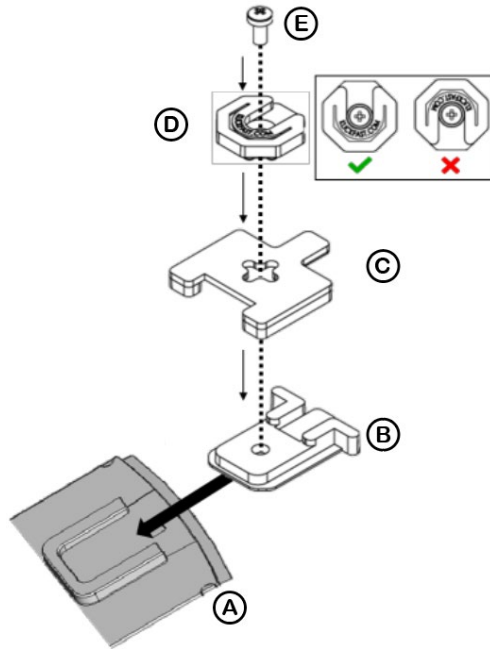

Figure 3
- Note:** The 'U' shaped mounting slot ('A' in Figure 3) is located above the LCD screen.
1. Insert part B in Figure 3 into the 'U' shaped mounting slot (A) (Figure 3).
2. Place part C in Figure 3 on top of Part B and align the holes in both parts.
3. Place part D in Figure 3 on top of Part C and align the holes in both parts.
4. Insert the screw (E) (Figure 3) into the hole and use a screwdriver to securely attach the screw all parts to the camera.